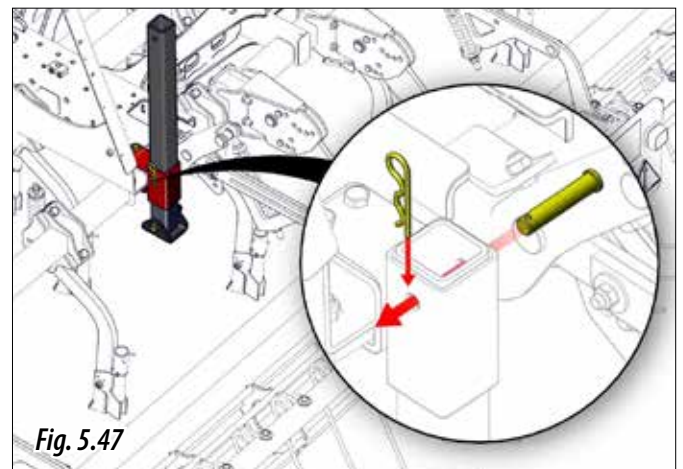

Fig. 5.47
- 3- Fit the bolt and the pin (Fig. 5.47).